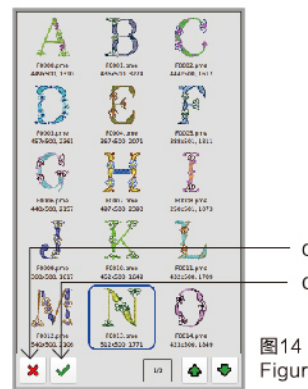

图14 Figure 14
- ② 点击a，进入图13界面，点击b，进入图14界面
Click a indicating to enter the interface in Figure 13. Click b indicating to enter the interface in Figure 14.